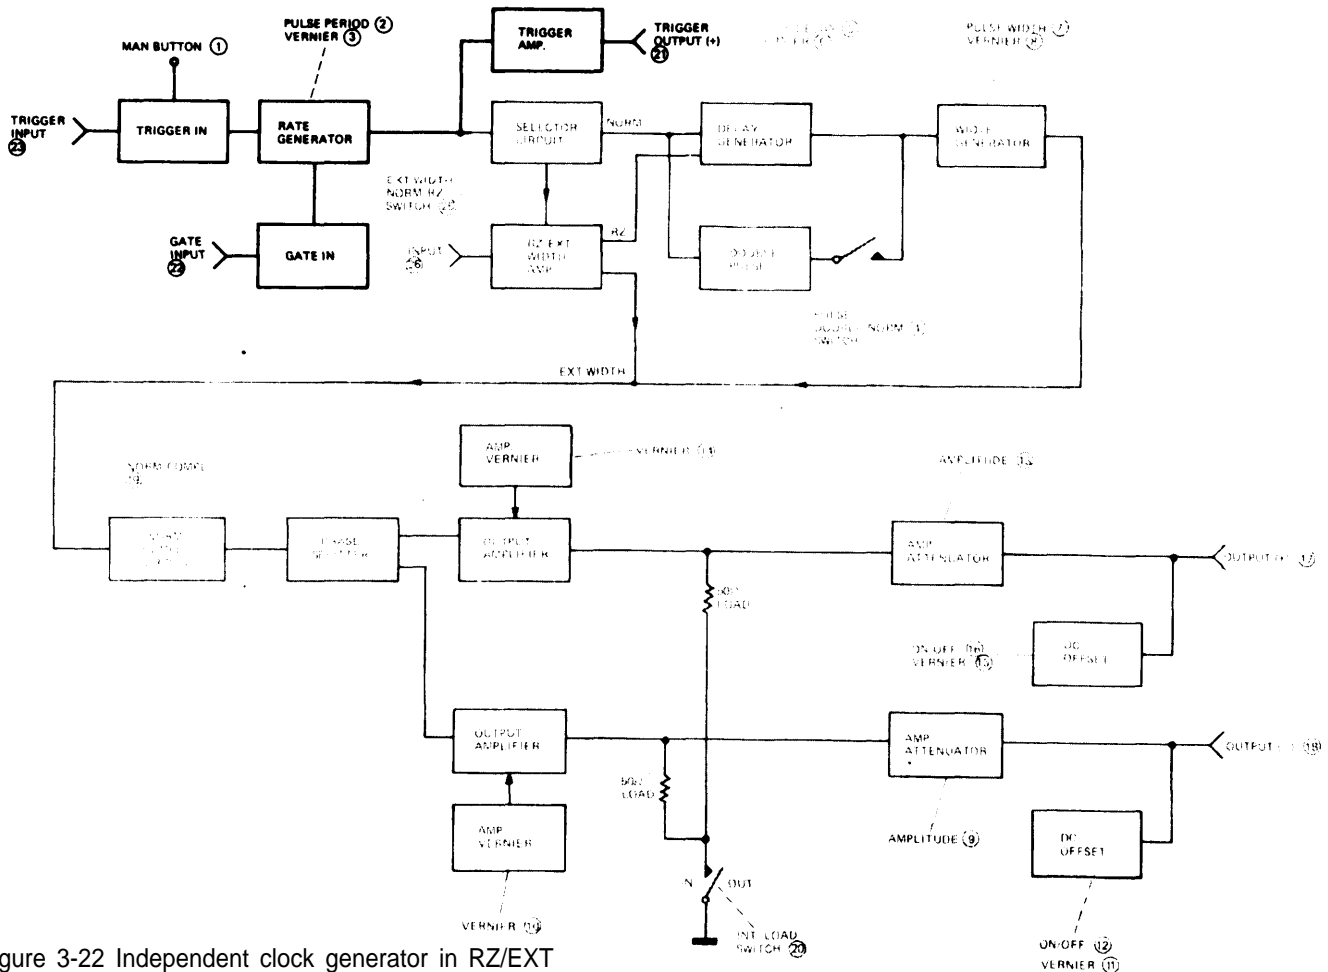

Figure 3-22 Independent clock generator in RZ/EXT WIDTH modes - block diagram
can be triggered internally, externally or manually and can also be gated as in the normal operating mode. If this facility is not required, it can be switched off by setting the PULSE PERIOD control (2) to EXT and disconnecting the TRIGGER INPUT (23). The circuits and controls involved in this facility are shown in Figure 3-22.